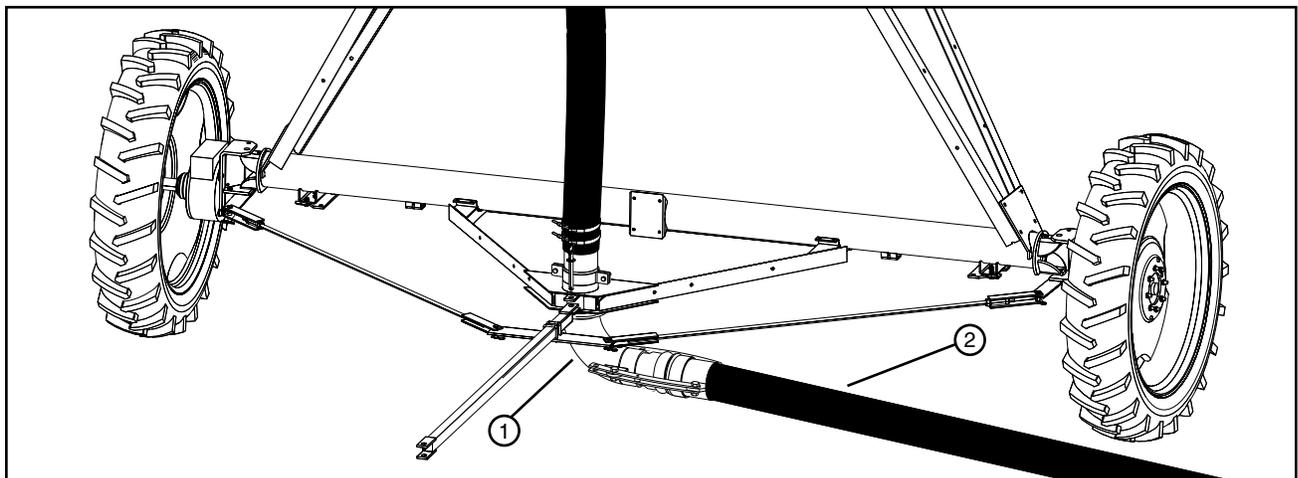

Figure 65-3 1. Hose 2. Elbow Inlet (Tee Inlet Not Shown)
- Disconnect the hose from the elbow or tee inlet. See Figure 65-3.